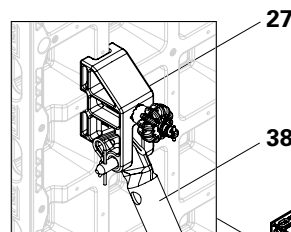

Fig. B3.03a
1. Mount push-pull prop (38) and kicker brace (39) on the DUO brace connector (27) and secure with bolt and cotter pin (27.4). (Fig. B3.03a + B3.03b)